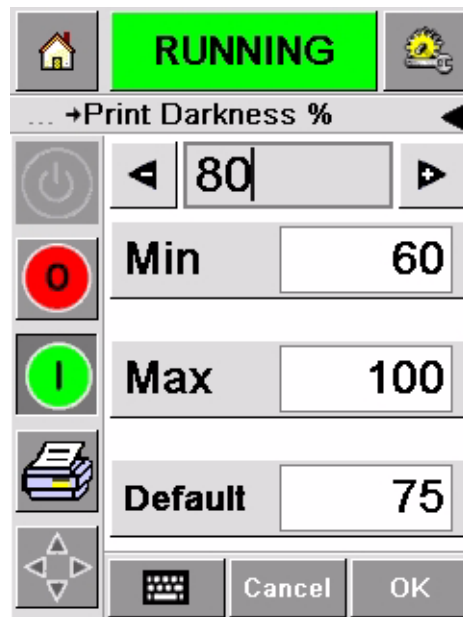

Figure 4-18: Print Darkness Setting
- 4 Touch the Print Darkness button to open the print darkness setup page (Figure 4-18 on page 4-16).